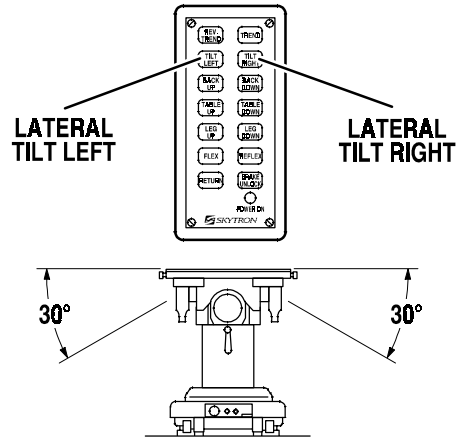

Figure 3-6. Lateral Tilt Positioning
d. Lateral Tilt. To achieve lateral tilt right (as viewed from the head end of the table), press the TILT RIGHT button (figure 3-6). Tilt of up to 30° may be obtained. To achieve lateral tilt left, press the TILT LEFT button. Tilt of up to 30° may be obtained.